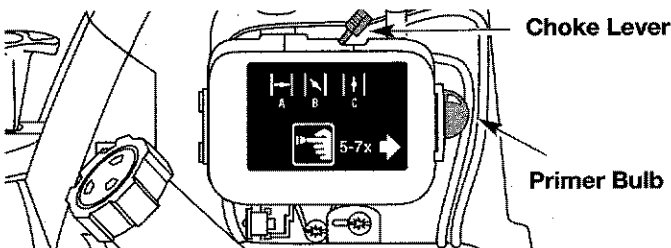
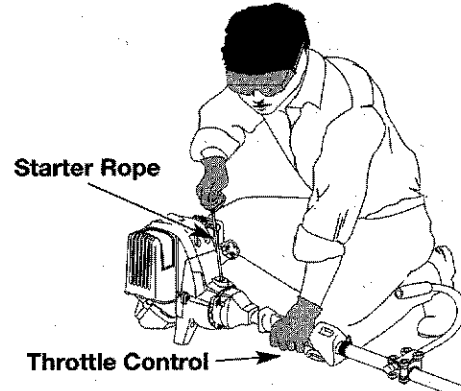

Fig. 22
Fig. 23
4. Place the choke lever in the **FULL** choke (A) |←| position (Fig. 22).
**NOTE:** Slide the choke lever directly above the appropriate symbol on air filter cover decal (Fig. 22).
5. Fully press and release the primer bulb slowly 5 to 7 times. Petrol (gasoline) should be felt and visible in the bulb (Fig. 22). If petrol (gasoline) has not entered the bulb, press three more times, or until it does.
7. With the unit in the starting position (Fig. 23) pull the starter rope briskly 5 times in the **FULL** choke (A) |←| position. If the engine attempts to run before the fifth pull, proceed to step 8.
8. Move the choke lever to the **PARTIAL** (B) |↘| position (Fig. 22).
**NOTE:** The engine will not run in the **FULL** choke (A) |←| position.
2. Move the choke lever to the **PARTIAL** (B) |↘| position (Fig. 22).
4. With the unit in the starting position (Fig. 23), pull the starter rope briskly until the engine starts.
5. When the engine starts, move the choke lever to the **RUN** (C) |↑| position, and run at full throttle for 30 seconds.
**NOTE:** 4-stroke engines, like cars, are able to start in the idle position. As an alternate method, you may want to start your unit in the idle position when the unit is warm. With the Ignition Switch in the **START** position and the choke lever in the **RUN** (C) |↑| position, pull the starter rope briskly. When the engine starts, run at full throttle for 30 seconds. If the unit fails to start or dies, revert to the **Engine Re-Start** procedure.
5. Fully press and release the primer bulb slowly 5 to 7 times. Petrol (gasoline) should be felt and visible in the bulb (Fig. 22). If gasoline has not entered the bulb, press three more times, or until it does.
9. Pull the starter rope 1 to 3 pulls until the engine starts (Fig. 23). Run for a minimum of 30 seconds.
**NOTE:** If the unit failed to start in step 9, move the choke lever to the **RUN** (C) |↑| position (Fig. 22) and pull the starter rope until the unit starts (1 to 7 pulls maximum). If the unit still fails to start, repeat steps 3 through 9.
10. Move the choke lever to the **RUN** (C) |↑| position and run at full throttle for 30 seconds to one (1) minute.
4. With the unit in the starting position, pull the starter rope briskly (Fig. 23) until the engine starts (1 to 5 pulls).
5. When the engine starts, run at full throttle for 10 to 30 seconds. Move the choke lever to the **RUN** (C) |↑| position (Fig. 22). Release the throttle control and allow the unit to idle.